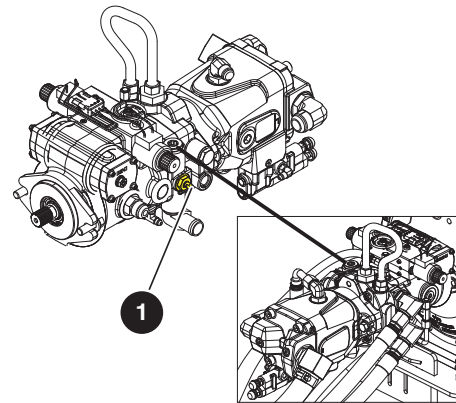

Figure 26 Drive Bypass Valve
6. Locate the bypass valve on the inboard side of the drive pump. Re-engage the drive pump by loosening the valve stem (item ① - marked with yellow paint - Figure 26) 90 degrees counterclockwise.